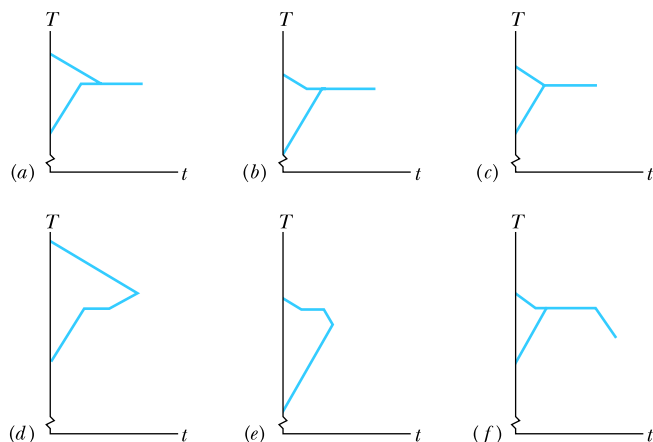

Figure 18.2 Questions 4 and 5.
**5** Question 4 continued: Graphs  $b$  through  $f$  of Fig. 18.2 are additional sketches of  $T$  versus  $t$ , of which one or more are impossible to produce. (a) Which is impossible and why? (b) In the possible ones, is the equilibrium temperature above, below, or at the freezing point of water? (c) As the possible situations reach equilibrium, does the liquid partly freeze, fully freeze, or undergo no freezing? Does the ice partly melt, fully melt, or undergo no melting?